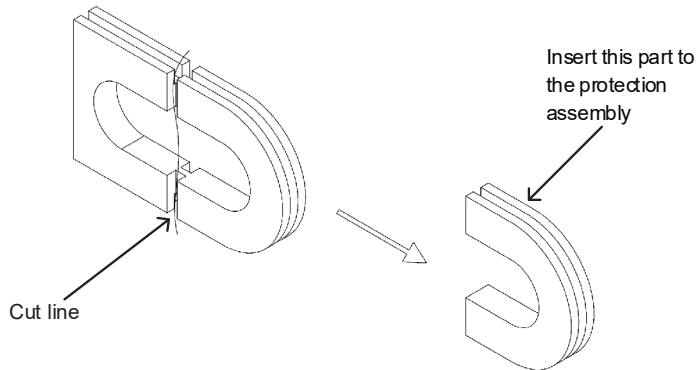
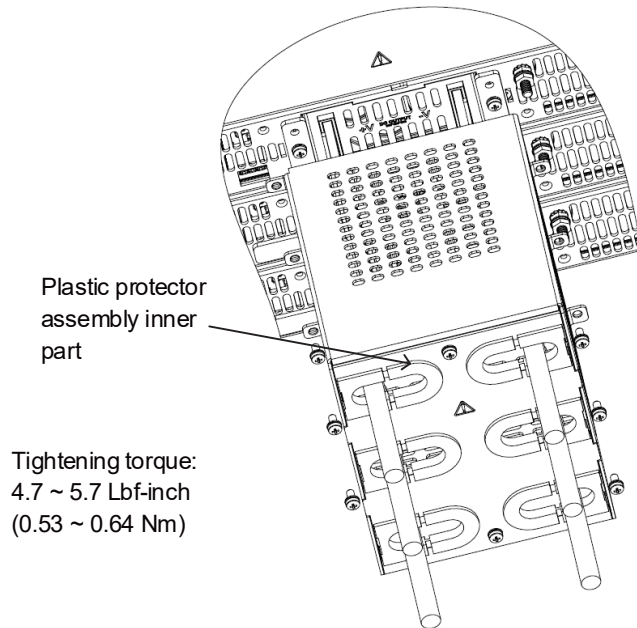

Figure 4-52: Plastic Protectors Separation
Figure 4-68: Assembly of 50V - 100V Wires Protection Cover
- 4. Remove & separate each plastic protector into two parts by cutting the plastic bridge between both parts, as shown in Figure 4-52.
- 5. Insert back to the protection assembly only the specified part, as shown in Figure 4-52.
3. Assemble the bus bars protection assembly to the rear panel of the power supply, by using 6 M3x6 Sems screws, as shown in Figure 4-68 (15kW is shown, it applies to 10kW as well. For 10kW, there are 4 screws only).
In case thicker wires are required, separate the plastic protector assembly and install only the inner part, refer to Figure 4-68 and Figure 4-52.